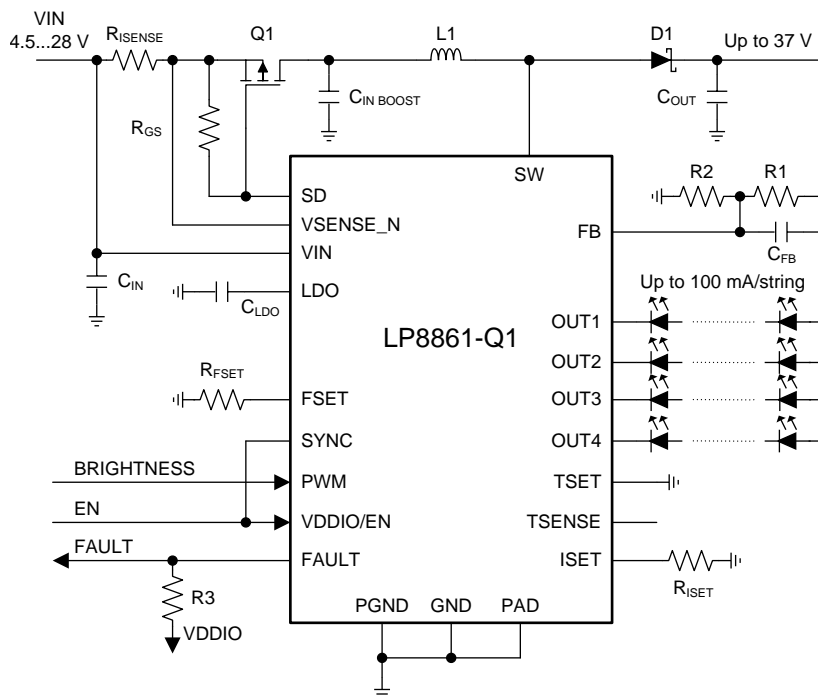

Figure 24. Typical Application for Four Strings 100 mA/String Configuration
The LP8861-Q1 has a control pin (SD) for driving the gate of an external power-line FET. Power-line FET is an optional feature; an example schematic is shown in Figure 24. Power-line FET limits inrush current by turning on gradually when the device is enabled ( $V_{DDIO/EN} = \text{high}$ ,  $V_{IN} > V_{GS}$ ). Inrush current is controlled by increasing sink current for the FET gradually to 230 μA.
Figure 24 shows the typical application for LP8861-Q1 which supports 4 LED strings with maximum current 100 mA and boost switching frequency of 300 kHz.